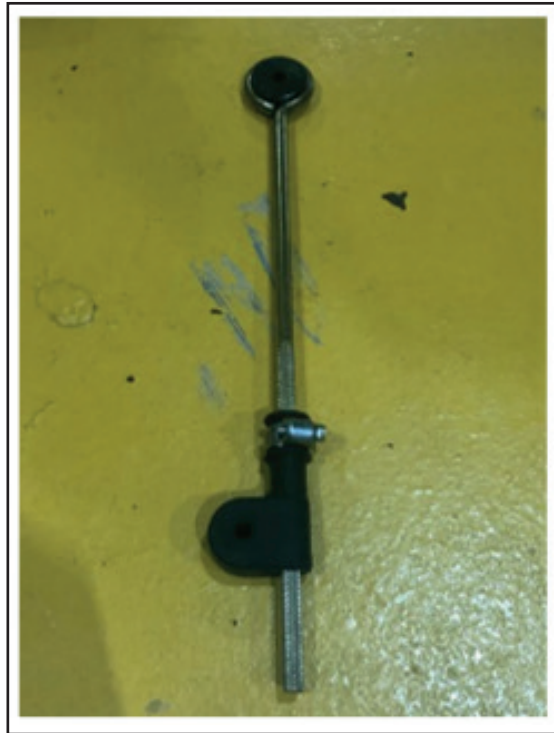

Figure 21 - Installation of New Valve
1.46. Pre-assemble new valve, adjustment will be done after installation (See Figure 21).